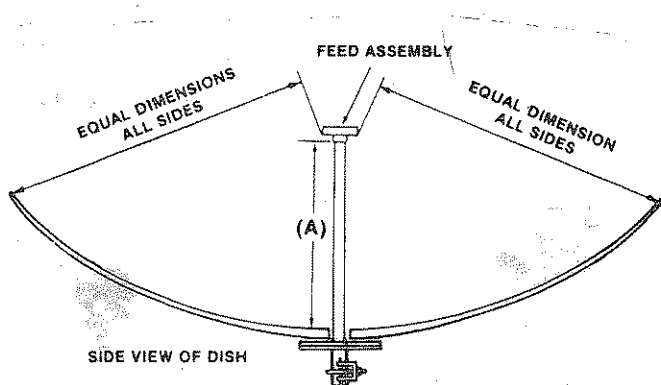

FIGURE 13
STEP 12. Ensure that buttonhook assembly is centered. See Figure 13. Push buttonhook assembly slightly as required to center.